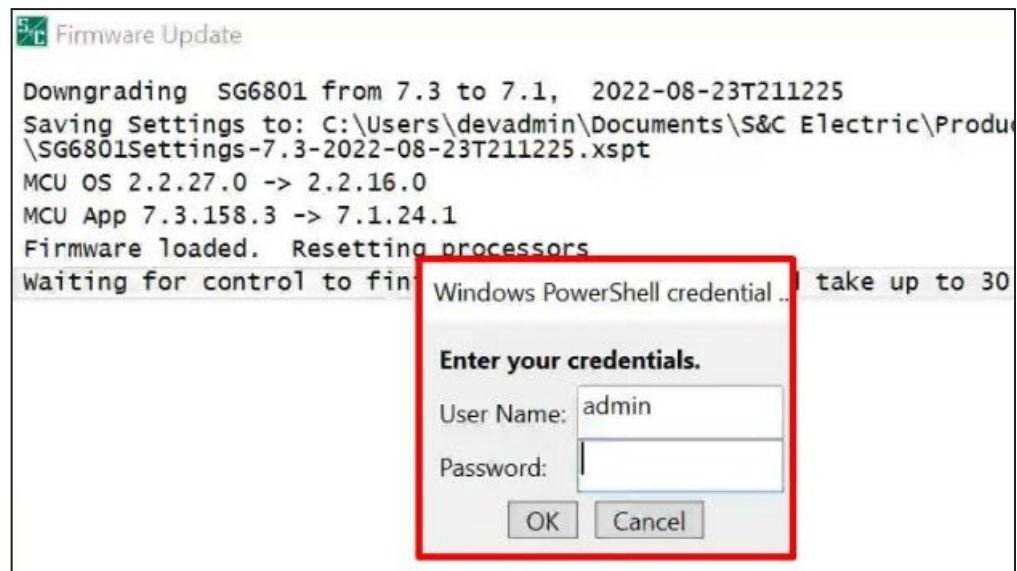

Figure 37. The Windows PowerShell Credentials dialog box.
STEP 19. If the Windows PowerShell Credential dialog box appears, enter the same password entered in Step 12 on page 29. See Figure 37.